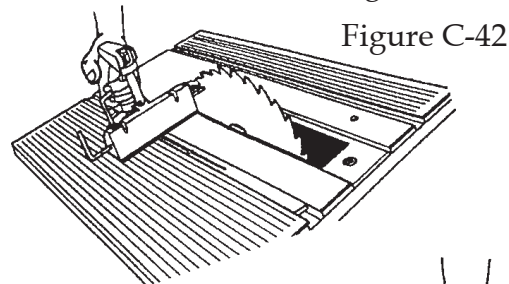

Figure C-42
42. Move the miter gauge from front to back along the saw blade, as shown in Figures C-42 and C-43. If it hangs up on the blade or a gap develops, the miter gauge slots need to be aligned. Make sure the Allen wrench does not contact a saw blade tooth, because the tooth "set" will cause misalignment.